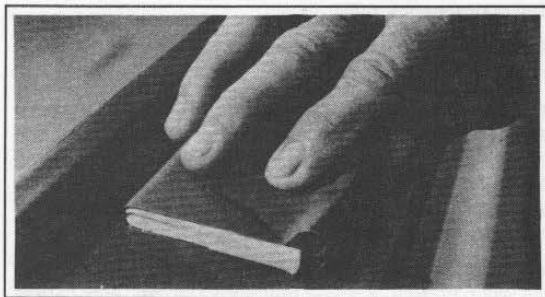

Figure 2-79. Sanding Patch
9. Sand the patched area, using a sanding block with 600-grit wet sandpaper. Finish by buffing with fine rubbing compound such as DuPont #606 and waxing. Weathering will aid to blend touch-up if a slight color difference can be observed. See Figure 2-79.